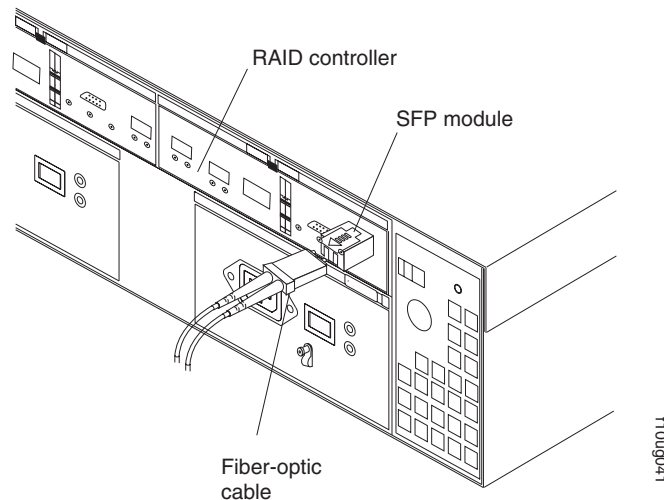

Figure 64. Location of SFPs and fiber-optic cables
3. From the RAID controller that has failed, remove the fibre-channel cables from the SFPs. The location of these components is shown in Figure 64.